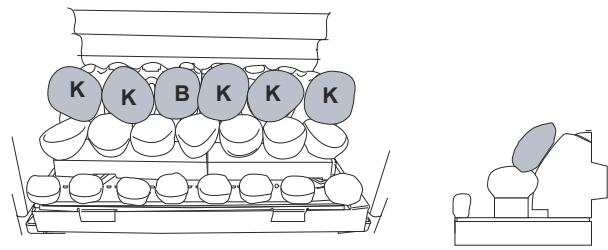
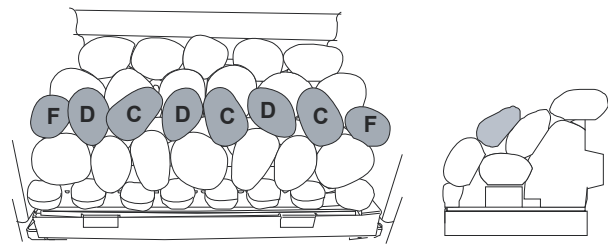

Figure 26
Figure 29
- Proceed with laying the rest of the pebbles in accordance with **Figure 26** to **Figure 29**.